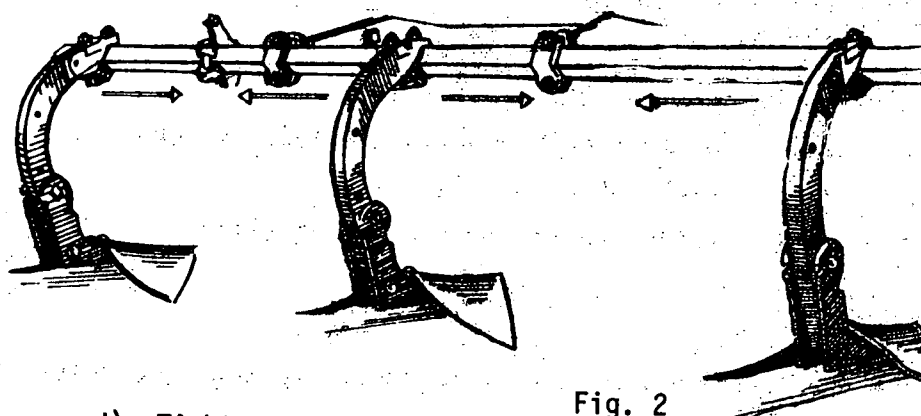

Fig. 2
- c) Adjust the distance between the hoes (Fig. 2).